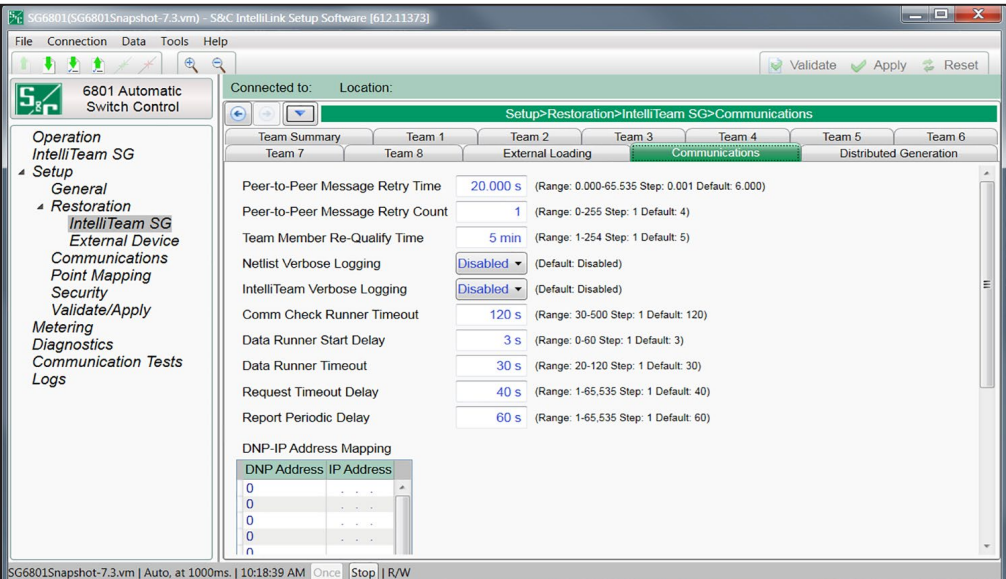

Figure 32. The Setup>Restoration>IntelliTeam SG>Communications screen.
STEP 9. ***For all devices in the IntelliTeam system:*** go to the *Setup>Restoration>IntelliTeam SG>Communications* screen and verify the **Data Runner Start Delay** setpoint is set to the default of 3 seconds. This is to ensure the data runners are sent at a frequency to get the loading data updated quickly if the current direction changes because of system events or during restoration. See Figure 32 on page 32.